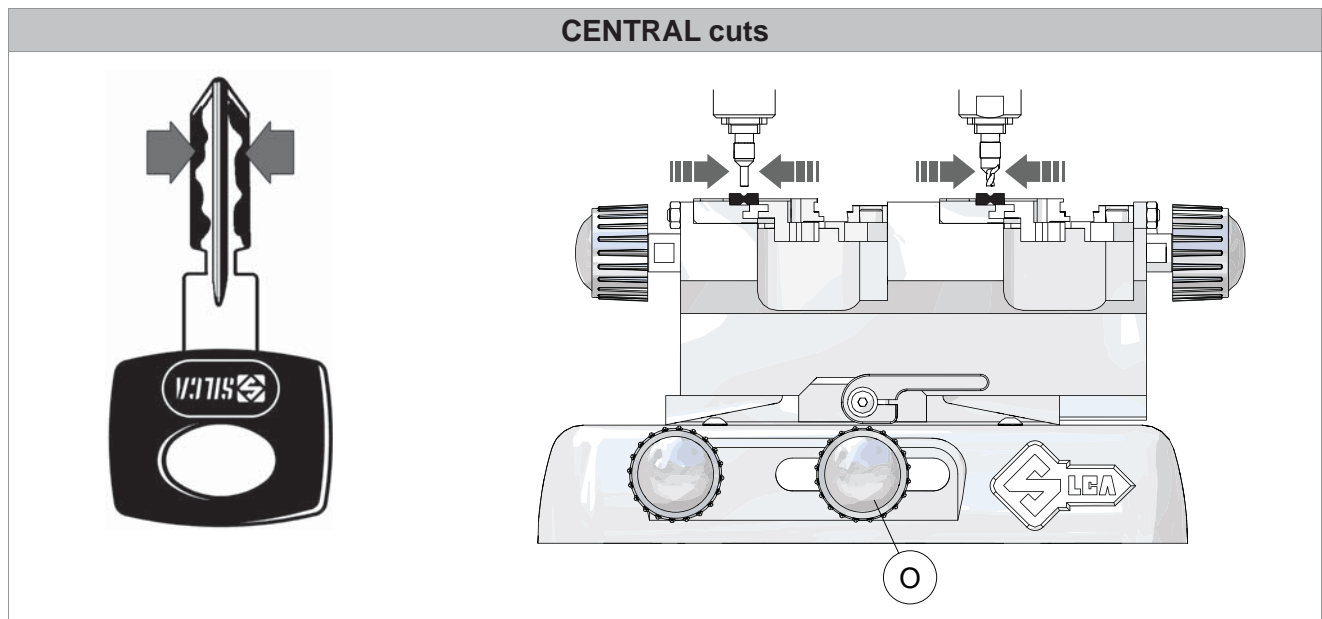
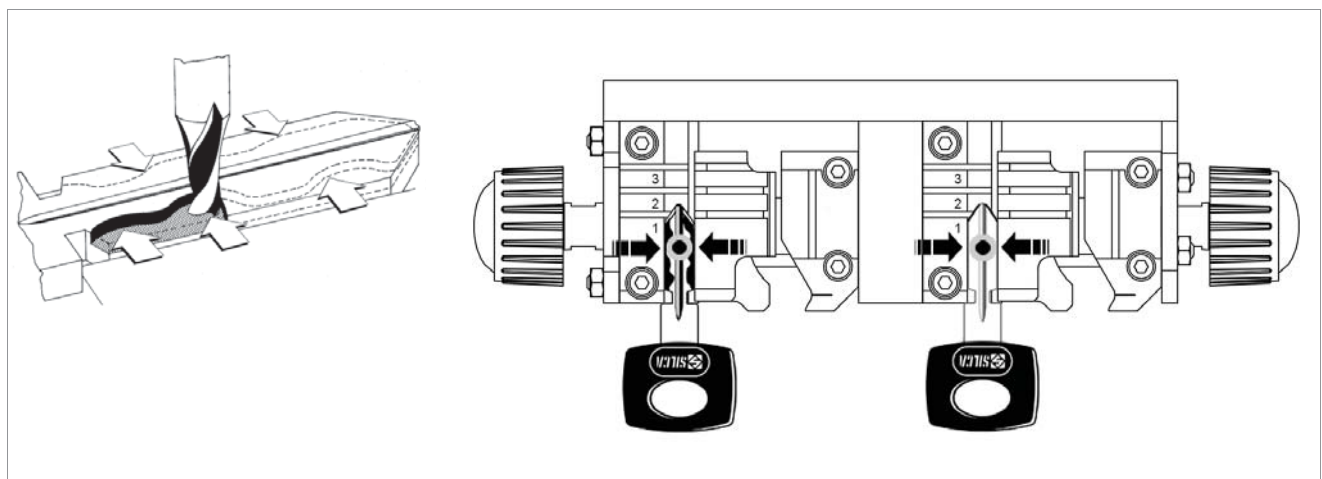
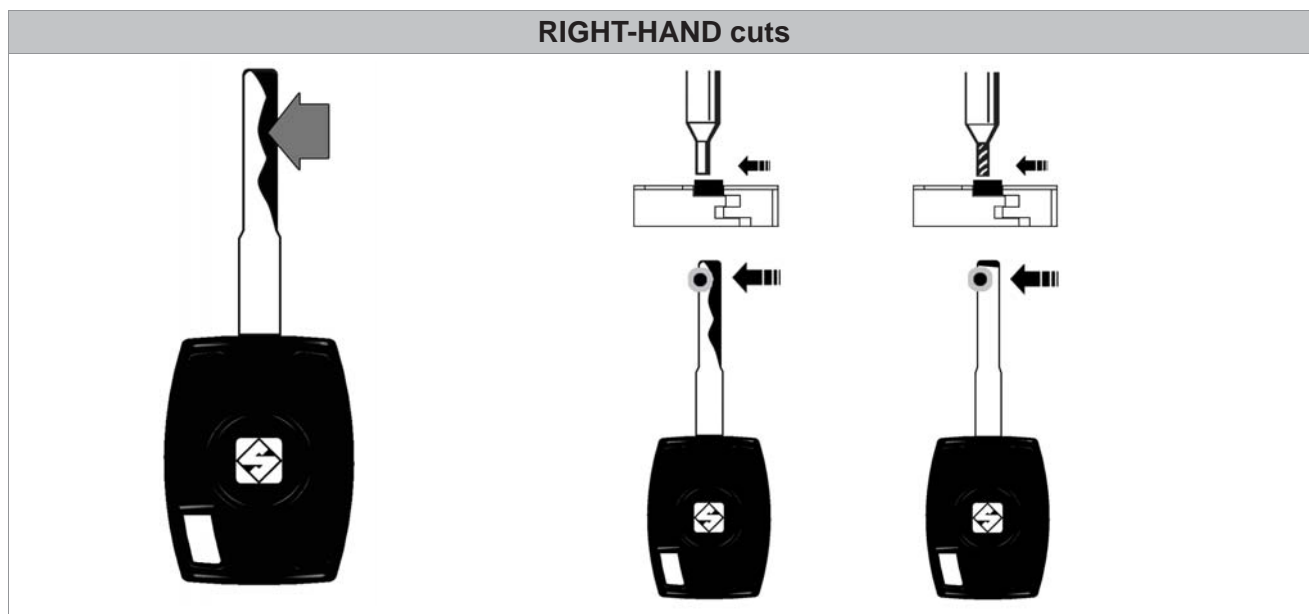
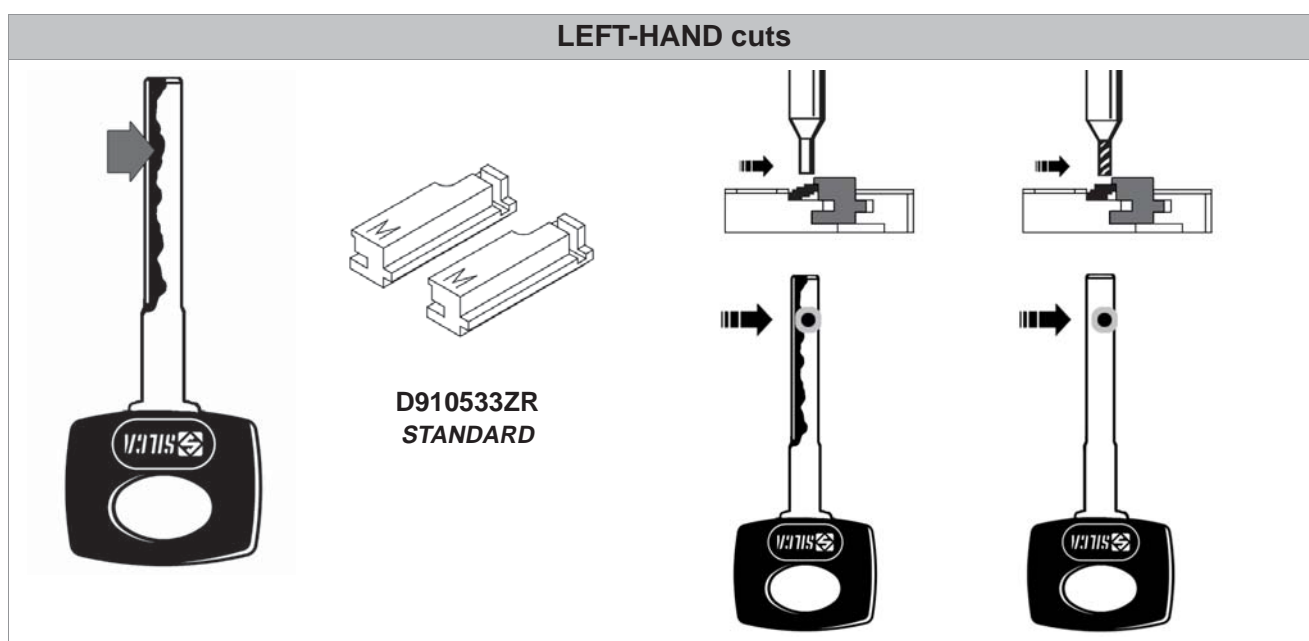

Fig. 25
Fig. 26
Fig. 27
Fig. 28
The spring function for laser keys is activated by means of the knob (O) (Fig. 25) and causes pressure on the tool sides along the cutting track when making cuts; this method allows the operator to trace cuts manually without pressing crosswise with the lever (C). Fig. 26, Fig. 27 and Fig. 28 illustrate the three examples of use of the spring system:
With the motor power switch (Q) off, loosen the knob (O) slightly (Fig. 25).
Take the tools above the keys centred over the key stem (Fig. 26).
Take the tools above the keys to the left of the key stem (Fig. 27).
Take the tools above the keys to the right of the key stem (Fig. 28).